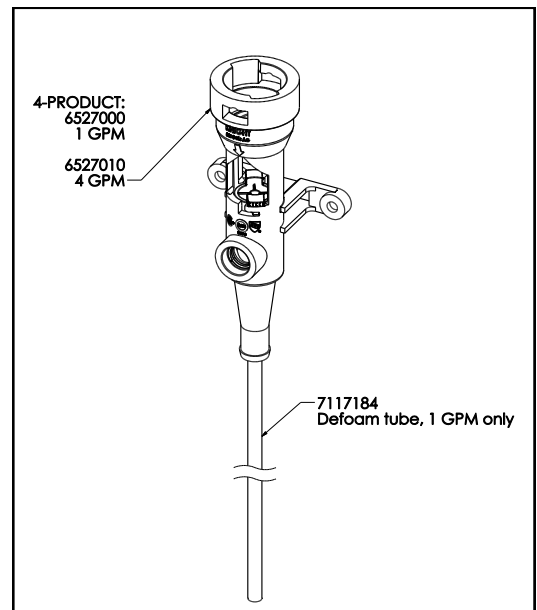

Figure 2 (Aire-Gap Assembly)
- (1) Remove the cover by gently snapping it away from the unit. Disconnect tubing from Aire-gap housing.
- (2) Twist and disconnect Aire-Gap housing counter-clockwise to remove water valve body.
- (3) Remove existing nozzle, deflector plate, and venturi tube by disassembling the Aire-Gap assembly — See Figure 2.
- (4) Reassemble the Aire-Gap using new nozzle, splash deflector, and venturi tube (for the desired flow rate). To avoid leakage, install the rubber washer with the ribs facing upwards.
- (5) Put Aire-Gap assembly back in place in the order that parts were removed.
- (6) Twist and reconnect Aire-Gap assembly back onto the water valve body.